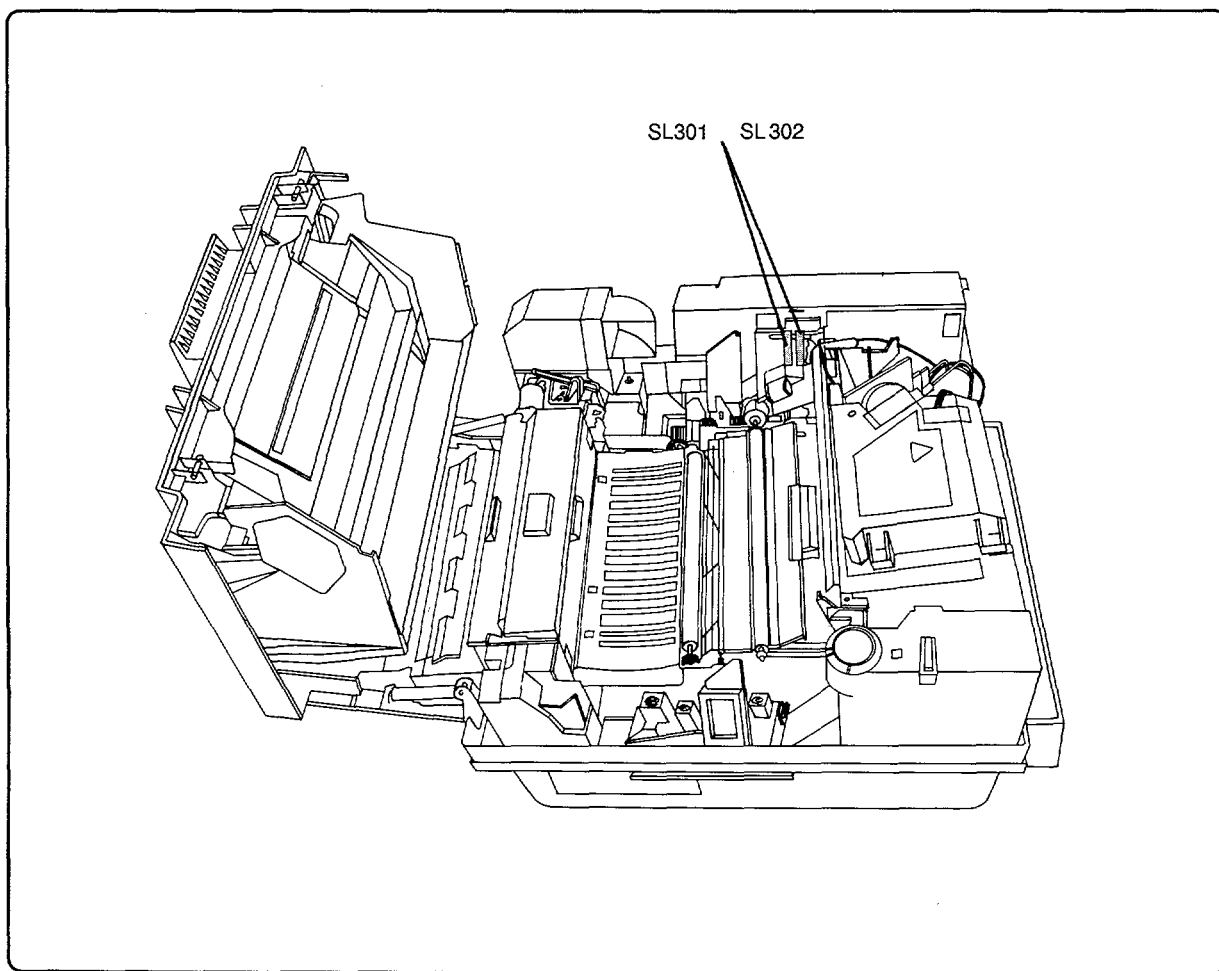

Figure 7-17. EP-S Cartridge Sensitivity Switches
With the printer ON, open the printer's Top Cover Assembly. Defeat the printer's Top Cover Assembly and EP-S Cartridge installed interlock switches (see Figure 7-17). While performing a TEST PRINT, observe solenoid SL302. If the solenoid is not being energized, perform the following electrical check.
The 14 NO EP CART installed message occurs when neither of the drum sensitivity switches (SW301 and SW302) on the Paper Control PCA is activated. When the EP-S Cartridge is installed and the Top Cover Assembly is closed, the EP-S Cartridge drum sensitivity tabs contact microswitches SW301 and SW302 on the Paper Control PCA (see Figure 7-17). The input from these switches is fed directly to the submicroprocessor on the DC Controller PCA. This microprocessor uses these signals to regulate laser power output.
3. Press switch SW301 (refer to Figure 7-17). The display should change from 14 NO EP CART to 00 READY.